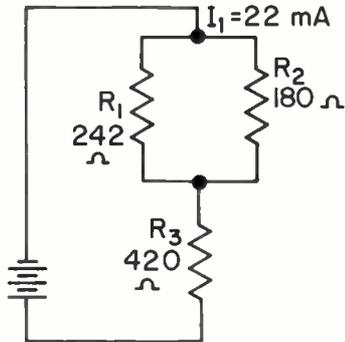

Fig. 11
9. 29.6 . . . Refer to Fig. 11. First find the voltage drop across the $242\text{-}\Omega$ resistor: $E = IR = 0.022 \text{ A} \times 242 \Omega = 5.324 \text{ V}$. The same voltage must appear across the $180\text{-}\Omega$ resistor, so the current through the $180\text{-}\Omega$ resistor is $I = E/R = 5.324 \text{ V}/180 \Omega = 0.0296 \text{ A}$. In this problem, we don't have to consider the value of the series resistor, because we know the voltage across the resistor in parallel with the $180\text{-}\Omega$ resistor.